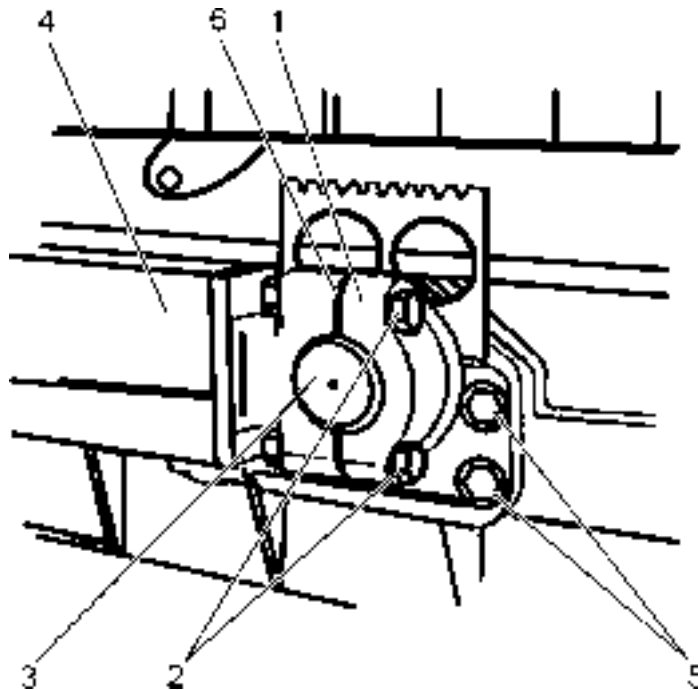

Fig. 5.38. Push Arm Mounting
4. Remove two trunnion bearing cap bolts (2, Fig.5.38) and remove caps (1) and shims (6) of R.H. and L.H. side trunnion (3) from push arms.